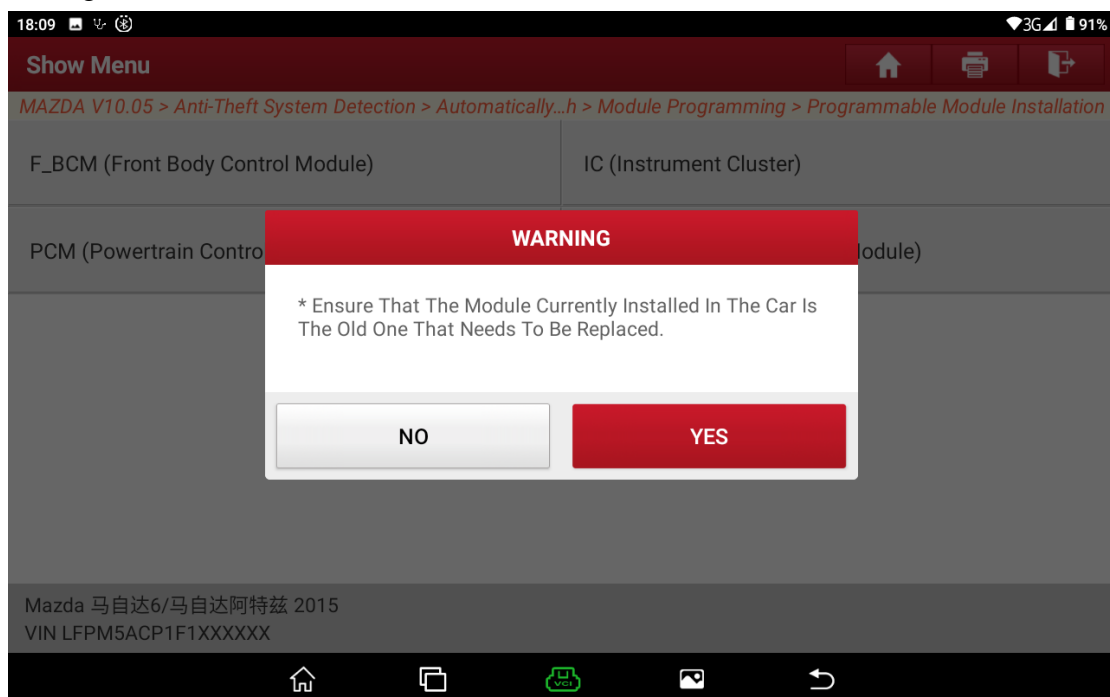

Figure B10
8. Confirm that the module in the car is the old module that needs to be replaced. Choose [No] to exit the function, or choose [Yes] to access the next step. See Figure B10.